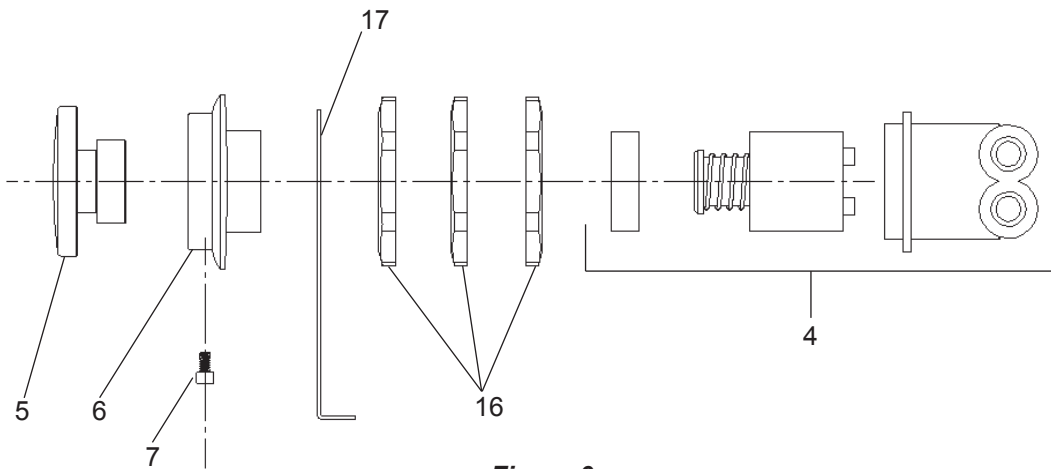

Figure 9
14. **Check** stream height from bubbler. Stream height is factory set for 35 PSI supply. If supply pressure varies greatly from this, remove push button (Item 5 - Fig. 9) and adjust the screw on the regulator (Item 4 - Fig. 9). To remove push button, remove setscrew from bottom of sleeve (Item 6). Insert a small punch in screw hole and push up while grasping the push button and pull forward removing the push button. Clockwise adjustment will raise stream height and counterclockwise movement will lower stream height. For best adjustment stream should hit basin approximately 6-1/2" from the bubbler. Reassemble the push button by pushing in on button until the push button catches in the sleeve. Reinstall the setscrew (Item 7) in the sleeve (Item 6).